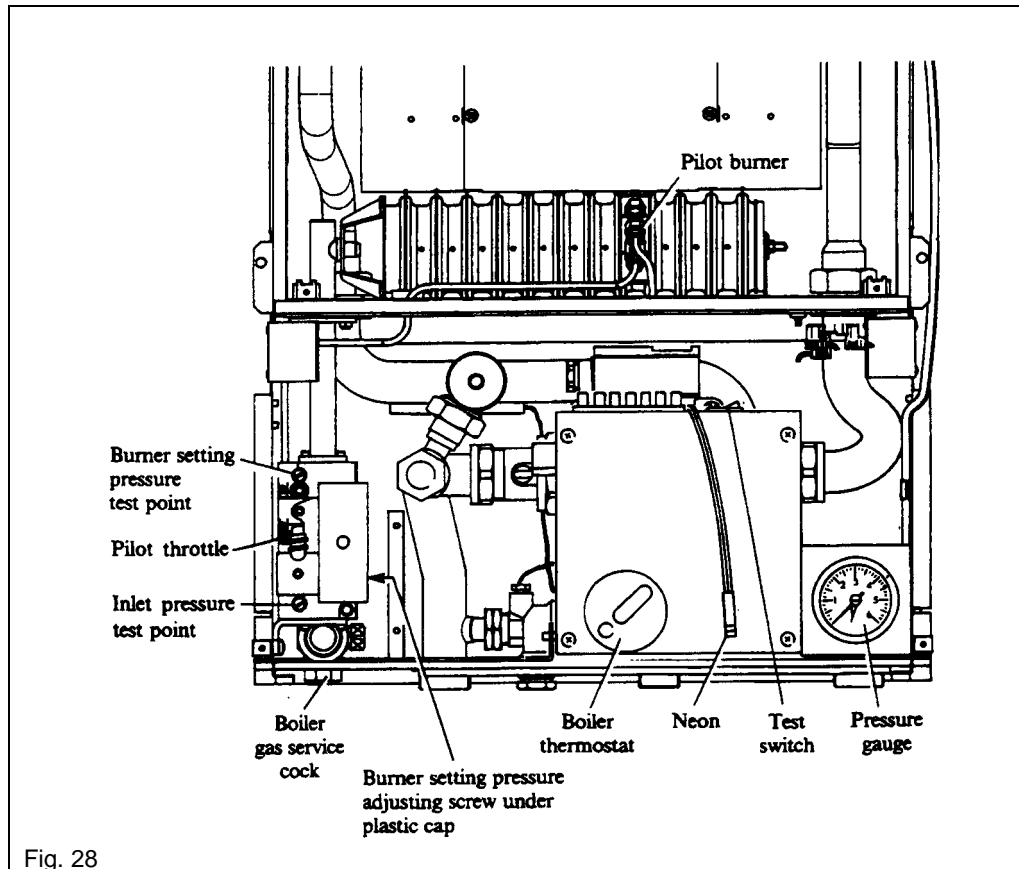

Fig. 28
Refer to Fig. 28.
Refer to Fig. 28 for boiler controls.
Note: The pilot burner is turned off every time the main burner is off. The ignition sequence is automatically activated when the boiler thermostat requires heat. The boiler is fitted with a neon, see Fig. 28, which will light whenever the main burner is on. The neon is to be fitted to the case bottom assembly when (re)fitting the case.
6. Carefully slide the bottom panel assembly into position (the bottom panel goes above the returns on the case side panels), clip the neon, see Fig. 28, into its holder on the back of the control panel as the bottom panel is slid into position. With the control panel cover open, secure the control panel to the case side panels with the two M4 x 10 lg. countersunk hd. screws (one each side) supplied with the boiler.